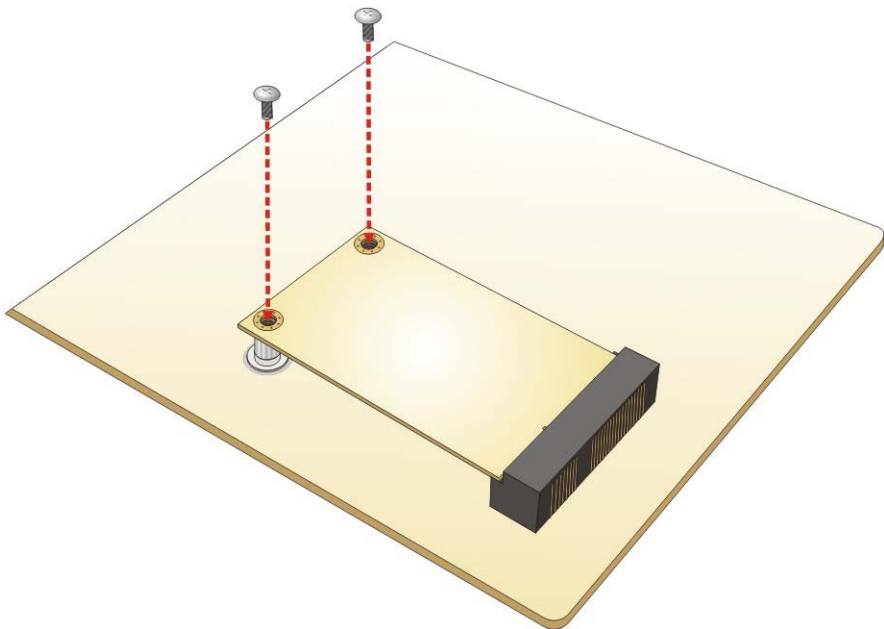

Figure 4-16: Securing the mSATA Card
Step 4: **Secure the mSATA card.** Secure the mSATA card with the retention screws previously removed (**Figure 4-16**).